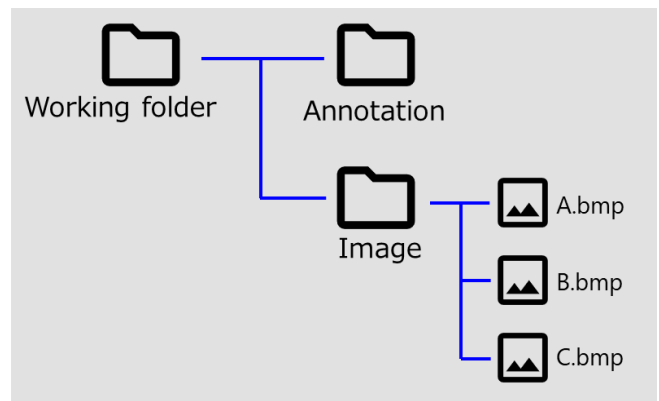

Fig.4.1 Structure of working folder
The storage location of thermal images and annotation data is arbitrary, but for the sake of explanation, we will assume below that the folder structure is as shown in Figure 4.1.
- In (c) - (m) below, the path of the folder in which the thermal images prepared in Fig. 4.1 are stored and the path of the folder in which the annotation results are stored are set.
- (e) Select "Local File System" for "Provider" and set the "Image" folder in Figure 4.1.
- (i) Select "Local file system" for "Provider" and set the "Annotation folder" in Figure 4.1.
Although the data to be converted to paths can be saved in any location, we assume here that the data is saved in C:¥Working\_folder, and the folder structure below this is the same as in Figure 4.1.